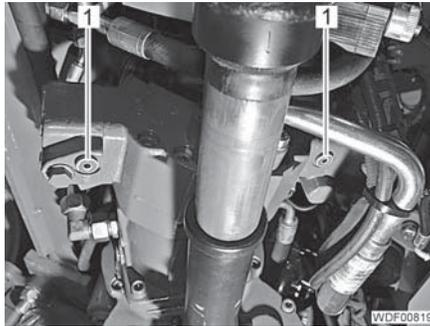

Fig. 21 Screw attachments
- Unscrew the 2 screw attachments (Fig. 21,1).